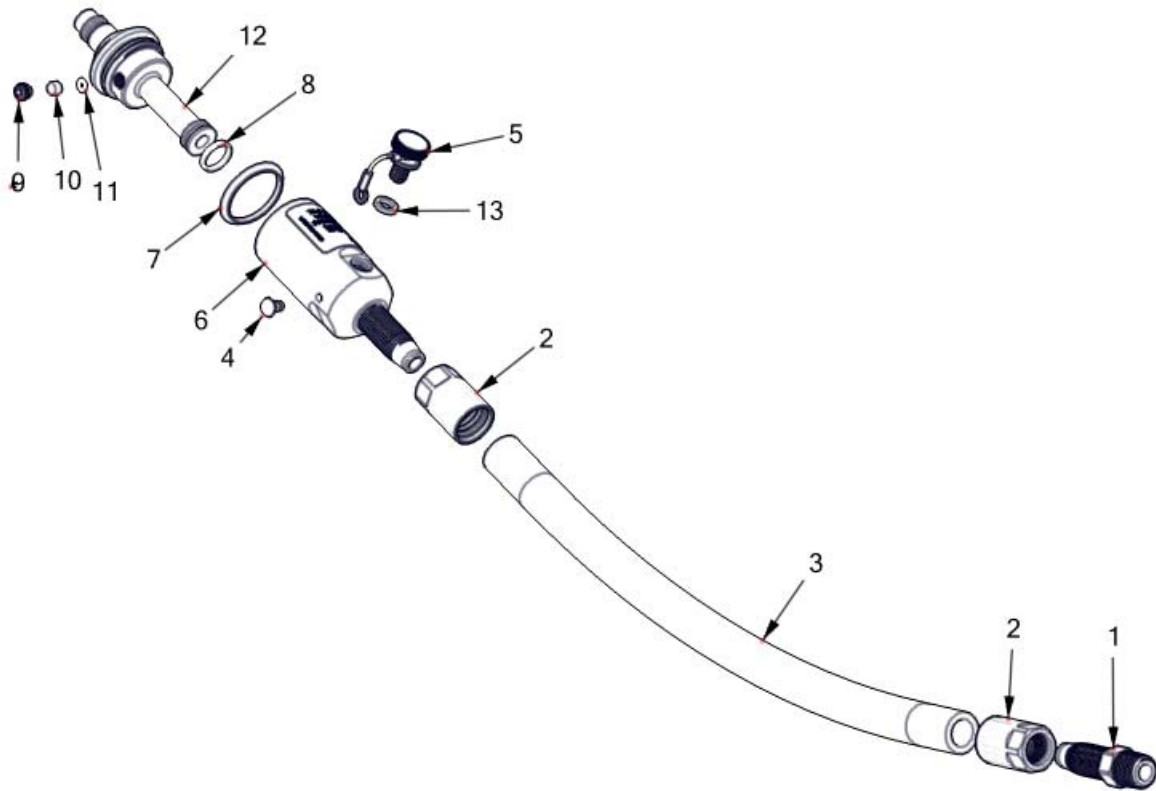

Figure 6-2. Oiler and Hose Assembly, Exploded View
- a. After the oiler and hose assembly has been unscrewed from the Pakhammer, unscrew connector (1, Figure 6-2) from ferrule.
- b. Only if hose (3) or either ferrule (2) is damaged and necessitates replacement should the ferrules be removed from the hose. If removal is necessary, hold hose firmly and unscrew the ferrule(s) (left hand thread).
- c. Unscrew fill screw (part of full screw and cable assembly) (5) from housing (6) and drain oil from the housing.
- d. If the fill screw and cable assembly are damaged, carefully pry drive screw (4) out of the housing.
- e. Unscrew housing (6) from inlet (12). Remove and discard o-ring seals (7 and 8) only if replacements are available. If replacements are not available and the old seals are worn, cut or otherwise damaged, they may result in oil leakage from between the housing and inlet but must be reused until replacements become available. Inspect the housing and inlet for damaged or worn threads, cracks and other similar damage that may result in oil leakage. Inspect the inlet for wear or damage to the quick disconnect end.
- f. Unscrew filter screw (9), carefully pull out filter disc (10) and o-ring seal (11). Discard the filter disc and o-ring seal only if replacements are available. If replacements are not available the old filter disc and o-ring seal must be reused until replacements become available. Be sure the orifice in the filter disc is clear and not obstructed. Clean as required.